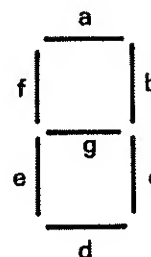

Figure 5-1. Segment Identification
**Sequential Display Test**—Segments and annunciators are sequentially displayed in eight steps. Use Figure 5-1 for segment identification. The steps are as follows: